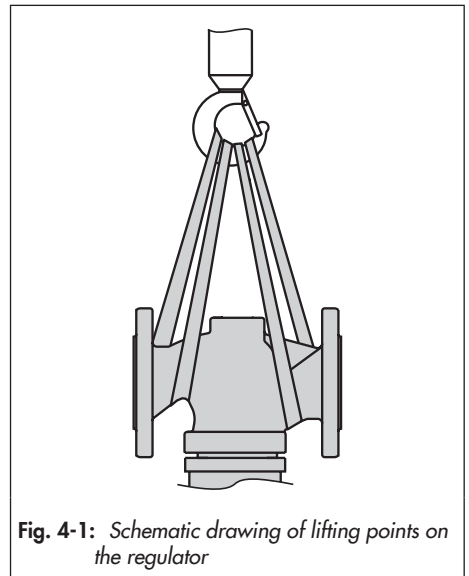

Fig. 4-1: Schematic drawing of lifting points on the regulator
- Use a hook with safety latch to secure the slings from slipping off the hook during lifting and transporting (see Fig. 4-1).
1. Attach one sling to the flange of the body and to the rigging equipment (e.g. hook) of the crane or forklift (see Fig. 4-1).